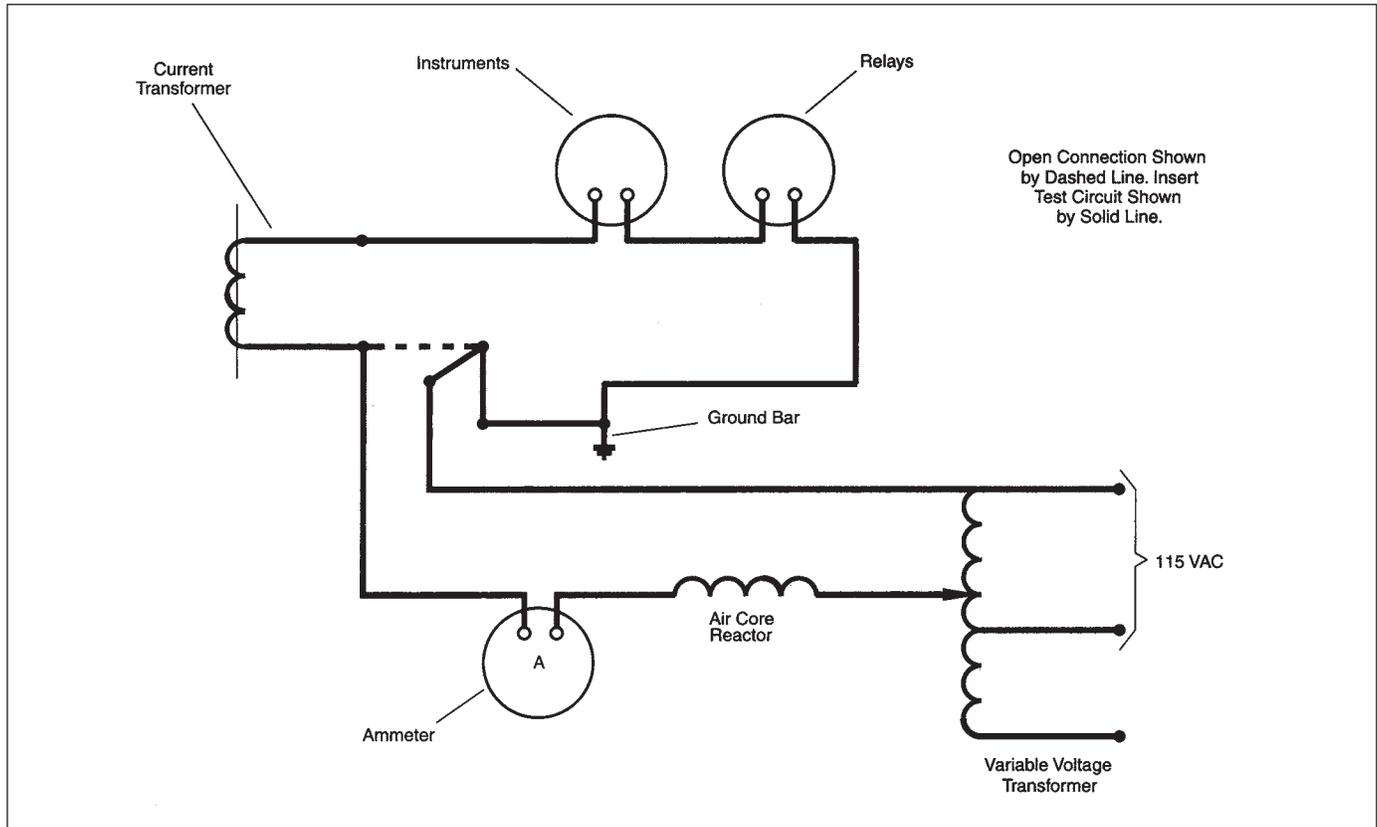

Figure 22. Current transformer testing
4. Current transformer circuits are tested for continuity. As shown in **Figure 22**, with the switchgear installed but not energized, disconnect the "grounded" lead at the current transformer secondary terminal block connection, and pass a measurable amount of current not to exceed five amperes through the lead to ground. Pass sufficient current to observe operation of relays and instruments. Manipulate the instrument switches and observe the phasing. Repeat with each transformer. Do this for metering and relaying current transformers only – not breaker tripping transformer.